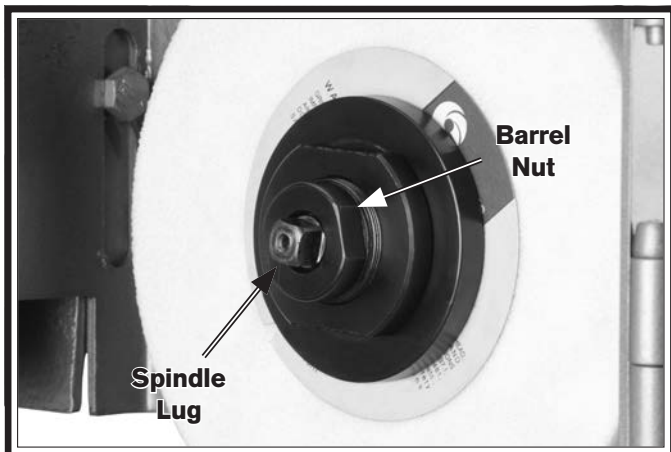

Figure 29. Component identification.
3. Position the spindle wrenches on the spindle lug and the barrel nut (see **Figure 29**).